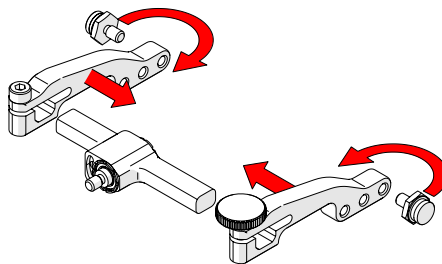

Fig. 186 - Attach arms and move buttons
4. Place the pivot buttons on the inside of the probe holder arms (*Fig. 186*) using a 3/8 in wrench (*Fig. 2*). Slide the arms onto the yoke and tighten the probe holder arm adjustment knob and the arm clamp screw.